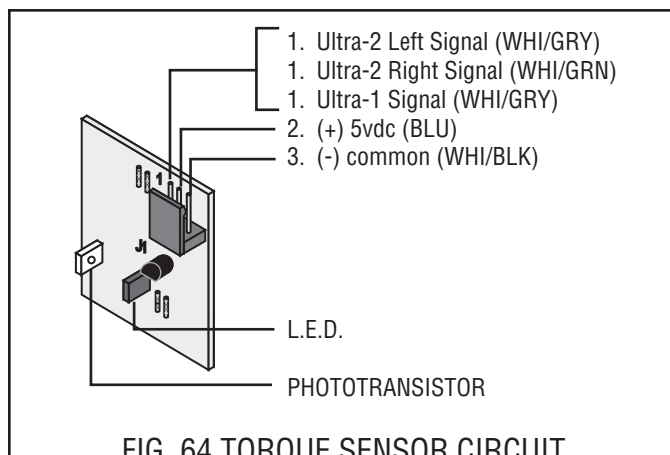

FIG. 64 TORQUE SENSOR CIRCUIT BOARD TERMINALS
15. Refer to Fig. 64 when reconnecting the wires.